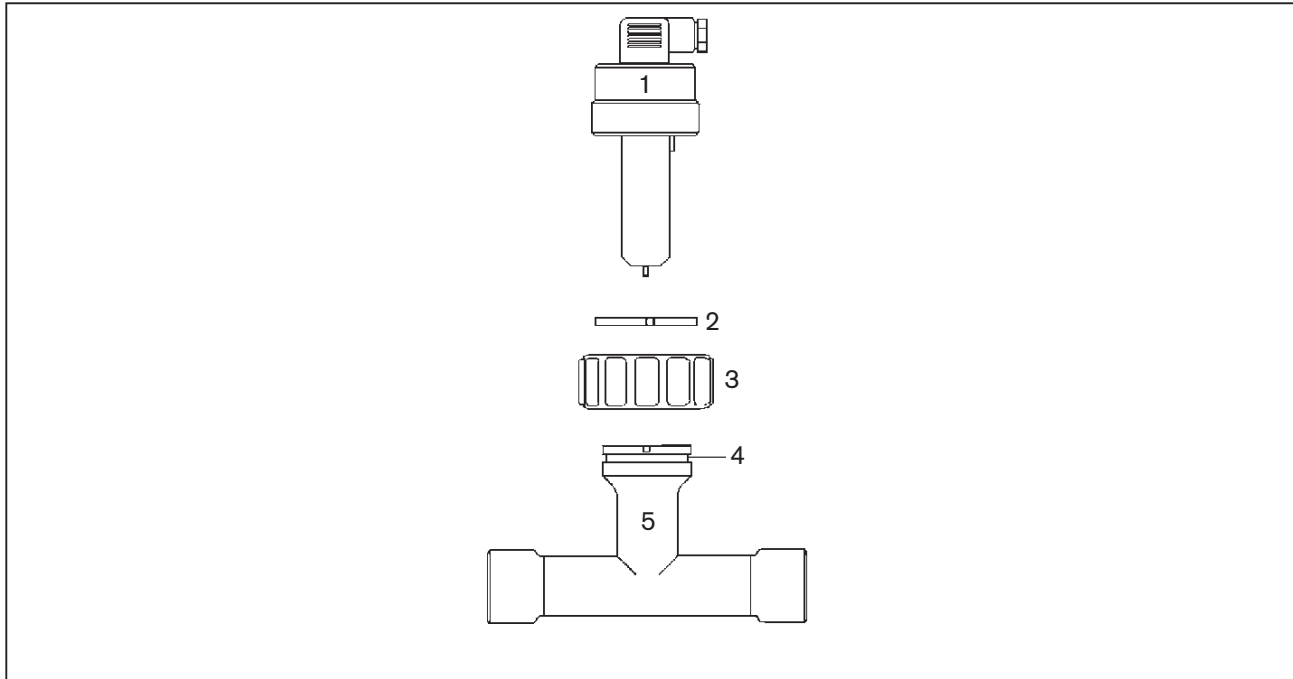

Figure 1: *Installing the sensor in the fitting*
- When installing the sensor 5 (see Figure 1), follow the installation instructions given in section 2.1 and in the operating instructions.